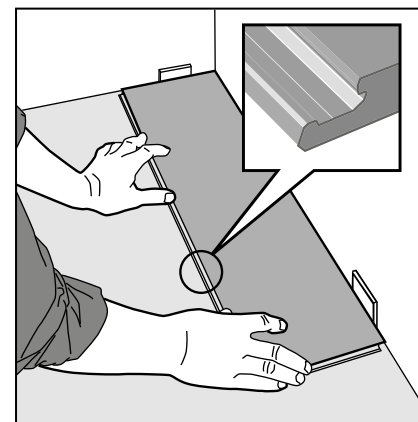

Figure 11 First plank, first row
- > The tiles and planks (panels) are laid without glue. Start to lay the floor in the left-hand corner of the room with the lower male profile facing towards you (Fig 11).